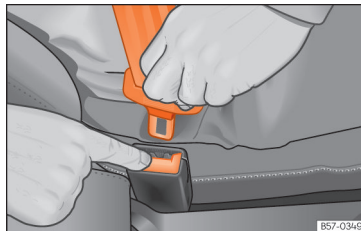

Fig. 25 Release the seat belt's latch plate.
- Press the red button on the buckle »» Fig. 25. The latch plate is released from the buckle.